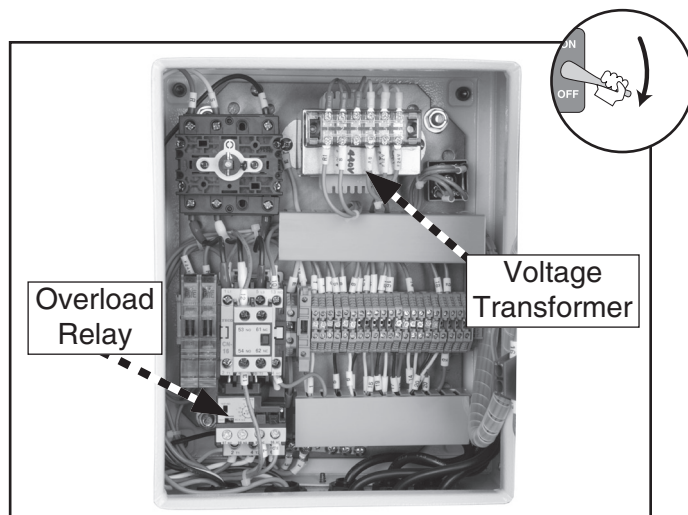

Figure 6. Voltage transformer and overload relay inside electrical cabinet.
2. Rotate the main power switch to **OFF** or "0" and the electrical cabinet door lock to the horizontal, then open the door to access the voltage transformer (see **Figure 6**).
4. Remove the overload relay and replace it with the 440V version (Part Number P0646209-1). Set the overload relay dial (see **Figure 6**) to the value for your model: